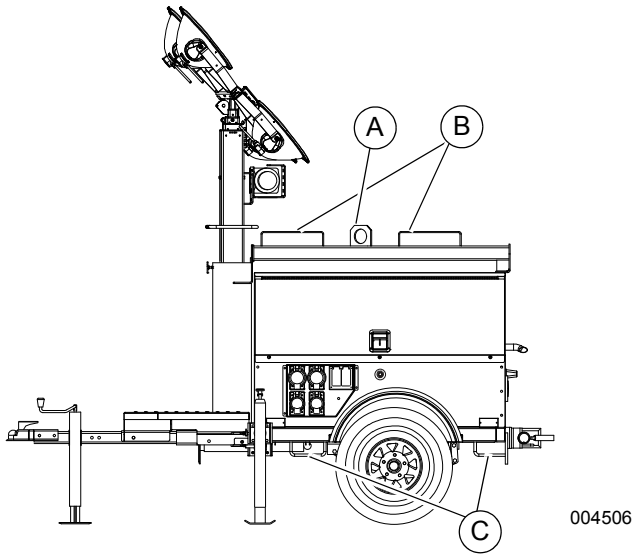

Figure 3-13. Lifting Point
2. See **Figure 3-13**. Close and lock all hoods and doors and stow the lights as shown.
4. When lifting the light tower and trailer, attach any slings, chains or hooks directly to the central lifting eye (A).
6. Use the upper (B) or lower forklift pockets (C) with care. Approach the unit as perpendicular as possible to avoid any damage to the unit. Make sure the mast winch handles or any other obstructions are clear of the forklift tines before lifting.